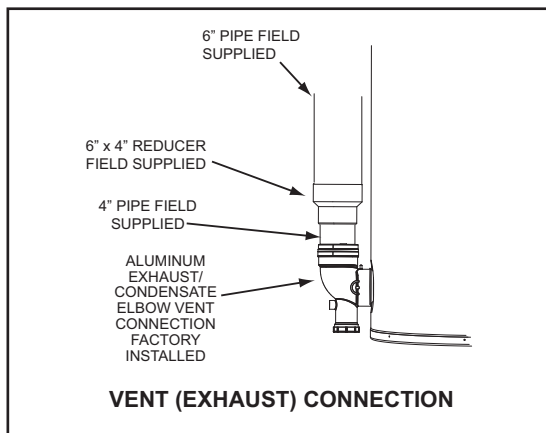

Figure 15. Vent (Exhaust) Connection
11. If installing 6 inch pipe transition to 4 inch pipe as shown in Figure 15. The field installed 4" pipe between the exhaust elbow and the 6" x 4" reducer coupling should be 18 inches (45 cm) or less in length.
12. If installing 6 inch vent pipe transition to 4 inch pipe at the exhaust elbow on the water heater as shown in Figure 15. The field installed 4" pipe between the exhaust elbow and the 6" x 4" reducer coupling should be 18 inches (45 cm) or less in length.